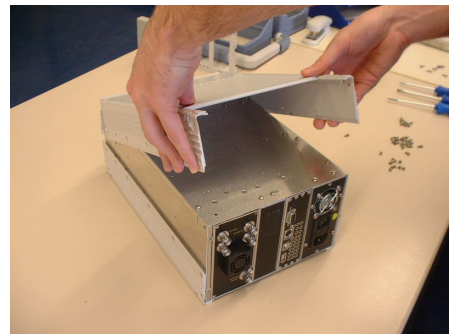

Figure 1-7
3. Remove cases. (see Figure 1-7).